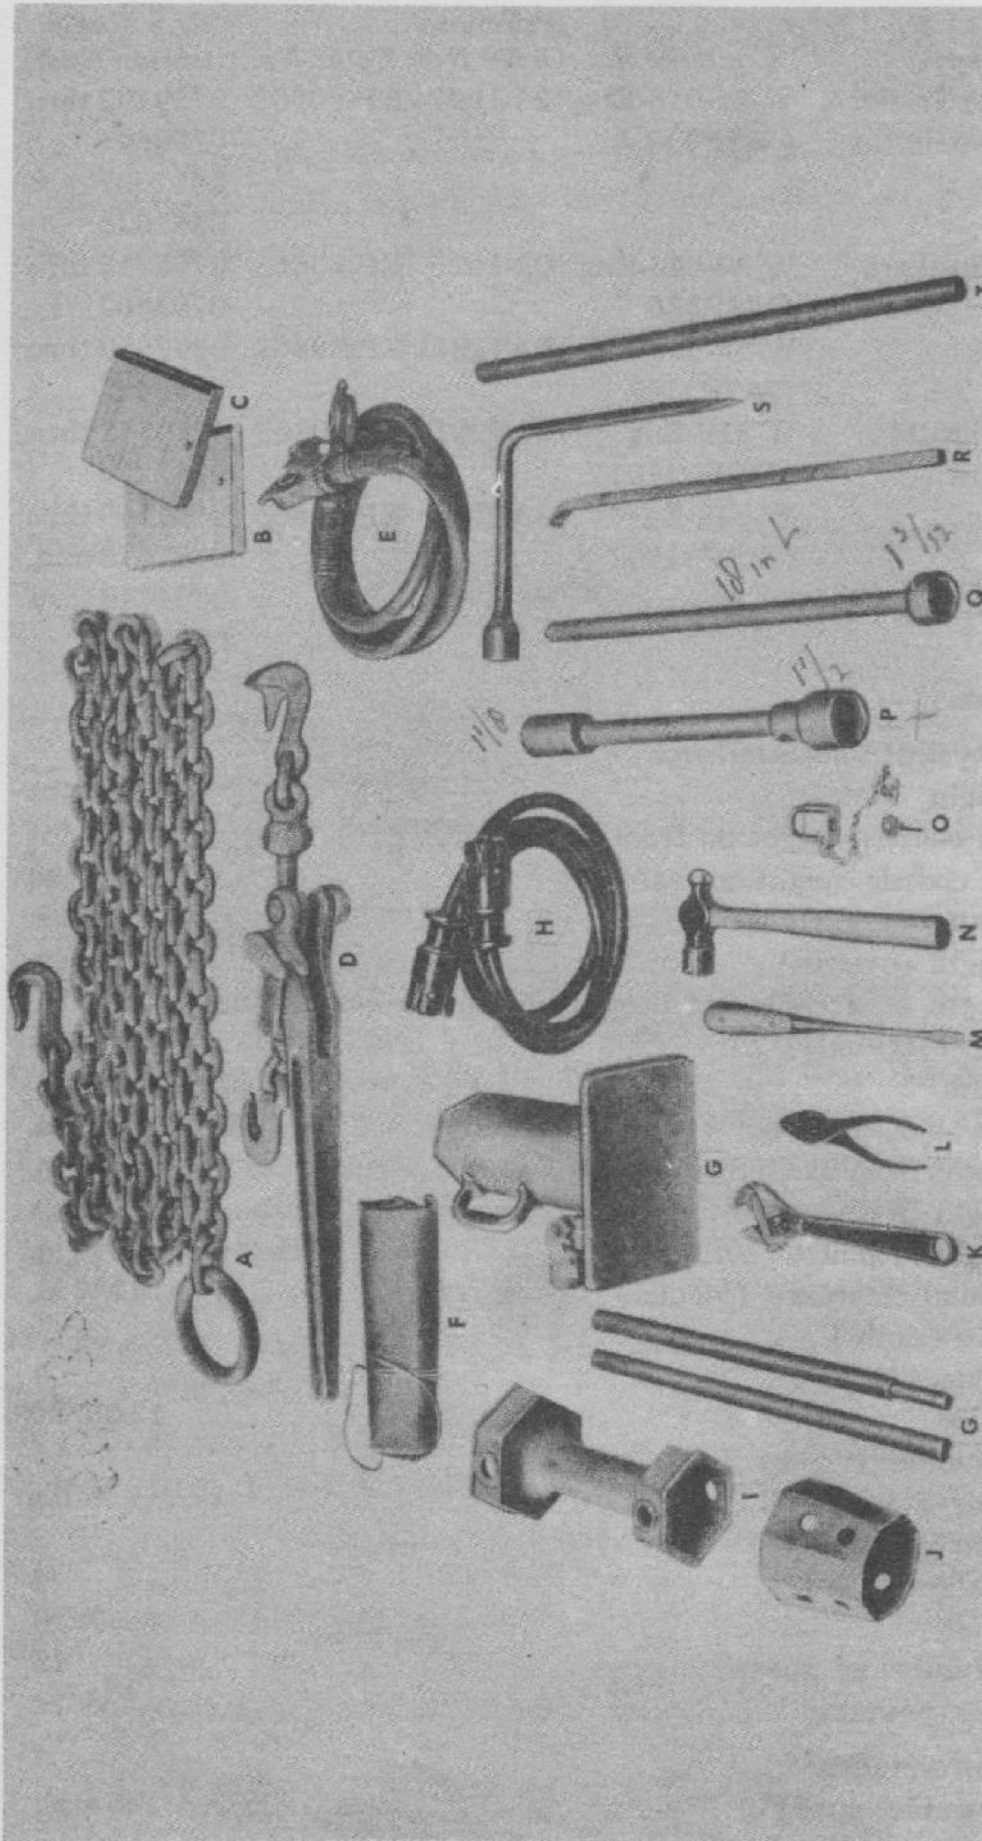

FIGURE 7. TOOLS AND EQUIPMENT
a. **Purpose** (figs. 7, 8, 9, 10 and 11). The following list has been prepared for the purpose of checking all tools, equipment and first echelon spare parts furnished with this vehicle. The list can be used as a basis for requisition.
a. New Equipment. Check all tools, equipment and first echelon spare parts to make certain the parts are stowed in the tool compartment. Remove lock from package and lock tool compartment. Check ramps, making certain the ramps are placed on the vehicle and properly lashed to trailer using load binders and two load binder chain. (See figures 7, 8, 9, 10 and 11.)
(1) Make certain spare tire is provided with vehicle and that the spare tire is properly fastened to the tire carrier (para. 10).